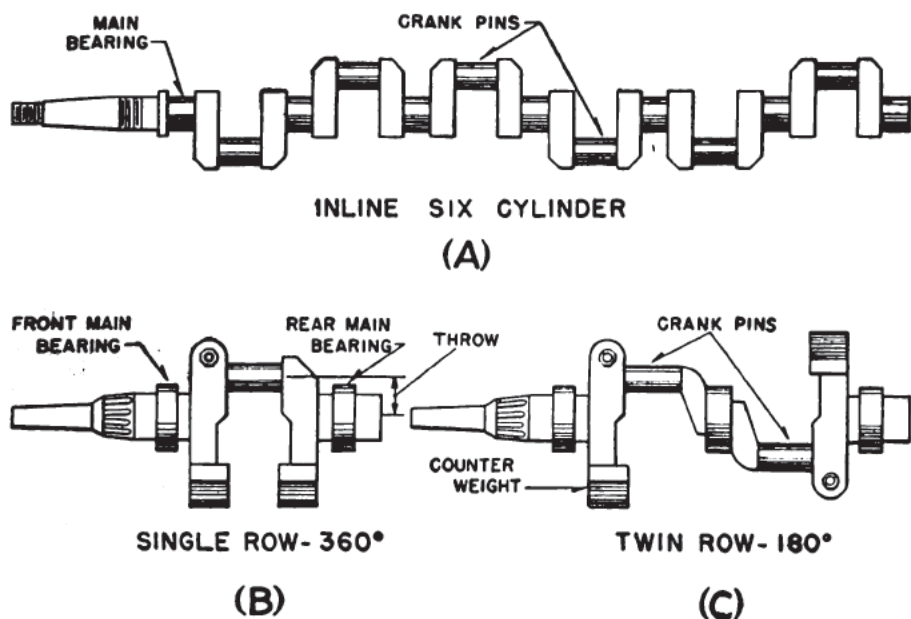

Figure 14.—Three types of crankshafts.
The crankshaft of the engine receives the power developed on the piston and delivers it to the propeller. Note (A) in figure 14. In other words it converts the power stroke of the pistons into rotational force, which turns the propeller. The 360° type crankshaft (B) in figure 14, is conventional for all single-row radial aircraft